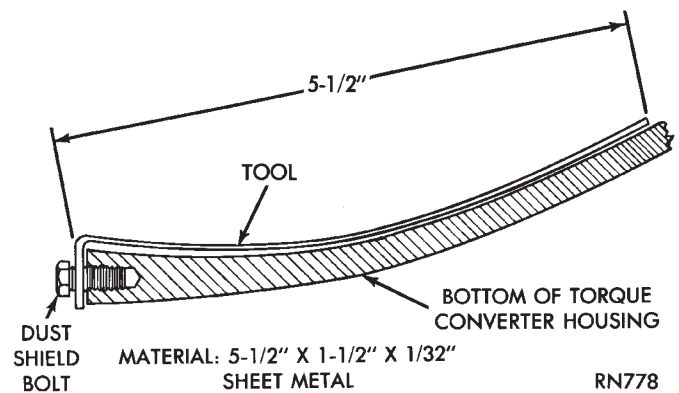
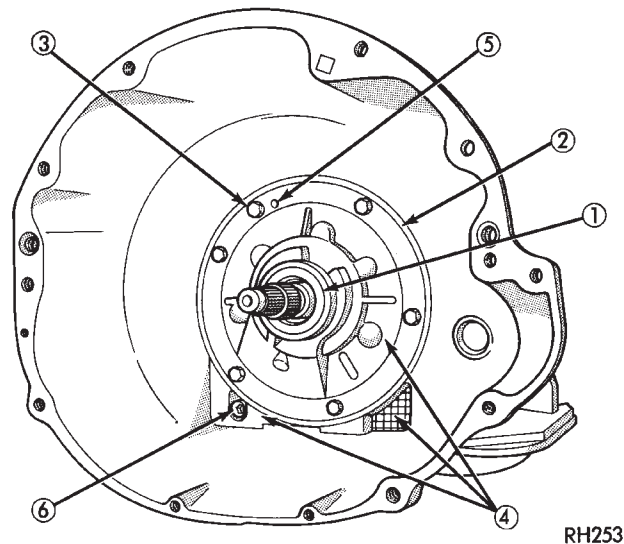

Fig. 6 Leak Test Probe
Fig. 7 Pump Area Inspection Points
- (1) Raise rear of vehicle and allow accumulated fluid to drain out of converter housing.
- (2) Check and adjust transmission fluid level.
- (3) Raise vehicle. Remove converter housing dust cover and wipe as much fluid as possible from converter housing.
(4) Fabricate test probe (Fig. 6). Attach probe to converter housing with a dust shield bolt.
(5) Have a helper run engine at 2500 rpm (with transmission in Neutral) for two minutes; then stop engine.
(6) Inspect test probe and converter housing. If a leak is evident, note color of fluid. Transmission fluid is red. Engine oil ranges in color from brown to green, or to black when oil is dirty.
(7) If probe upper surface is, the converter and seal are not at fault. A path of fluid across probe upper surface indicates a converter or seal leak. Fluid leaking **under** the probe is coming from pump housing area (Fig. 7).
(8) Fluid leaking under the probe could be from: pump seal and/or bushing, pump vent, kickdown lever shaft access plug, pump bolts, or porous spots in pump body or transmission case (Fig. 7).
(9) If porous spots in the transmission case or pump body are the suspected leak source, pressurize transmission as described in Leak Testing With Air Pressure.